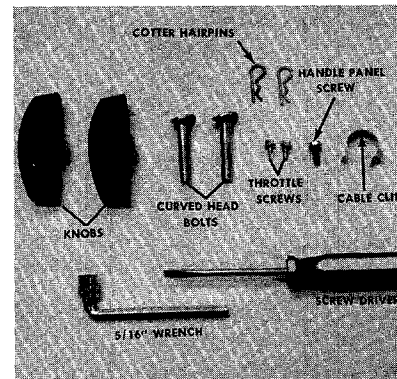

FIGURE 2. LOOSE HARDWARE AND TOOLS
1. Remove the loose hardware from the assembly pack. You will need a screwdriver and a 5/16" wrench, either a socket as shown in figure 2 or an open end wrench.